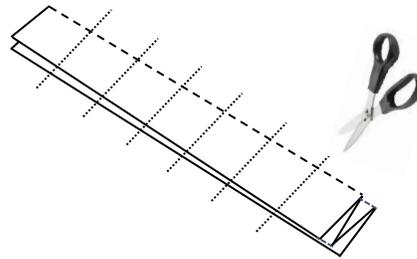

Figure 2
7. Once flat, have students cut the paper into squares (Figure 2).